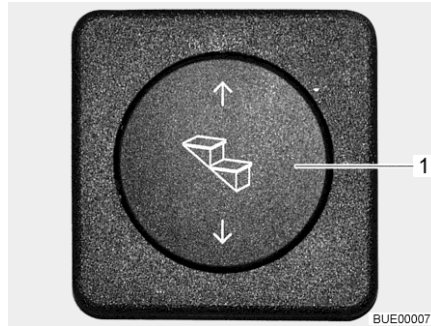

Fig. 2 Operating switch entrance step
- Extending:** ■ Press the rocker switch (Fig. 2,1) down until the entrance step has extended completely.
- Retracting:** ■ Press the rocker switch (Fig. 2,1) up until the entrance step has retracted completely.